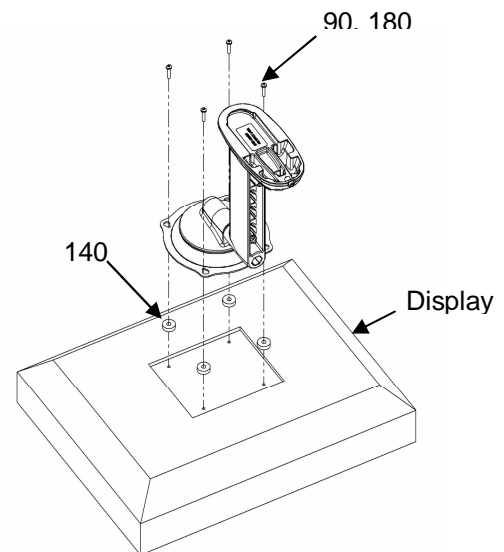

Figure 7. Recess Mount Centris Bracket to Display
2. Select four screws (90, 180) from Bag A and four spacers (140) from Bag C.
3. Place four spacers (140) over mounting holes on back of display (see Figure 7).
5. Install four screws (90, 180) to attach Centris bracket to display (see Figure 7).